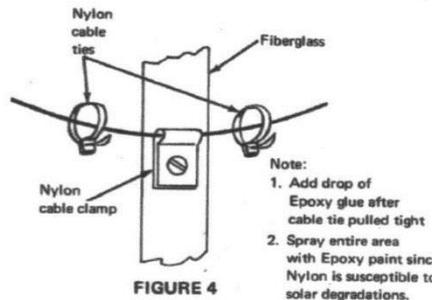

FIGURE 4
5. Fasten the cable tie on the three corners of each loop as given in Fig. 4 and dimensions from Table A.